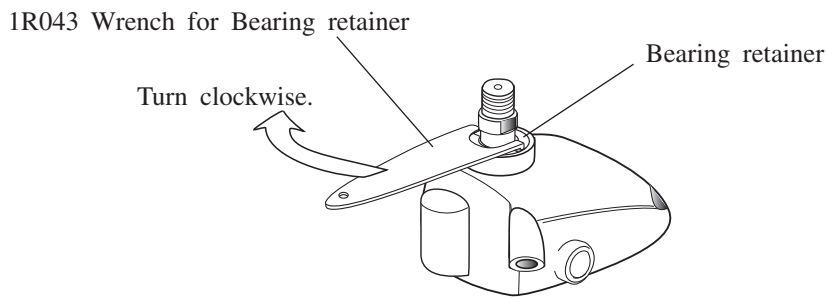

Fig.2
(2) Unscrew bearing retainer clockwise with No.1R043 "wrench for bearing retainer". See Fig.2.